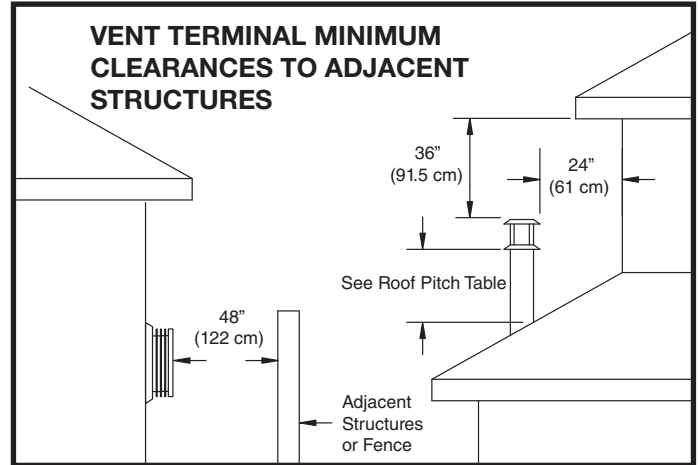
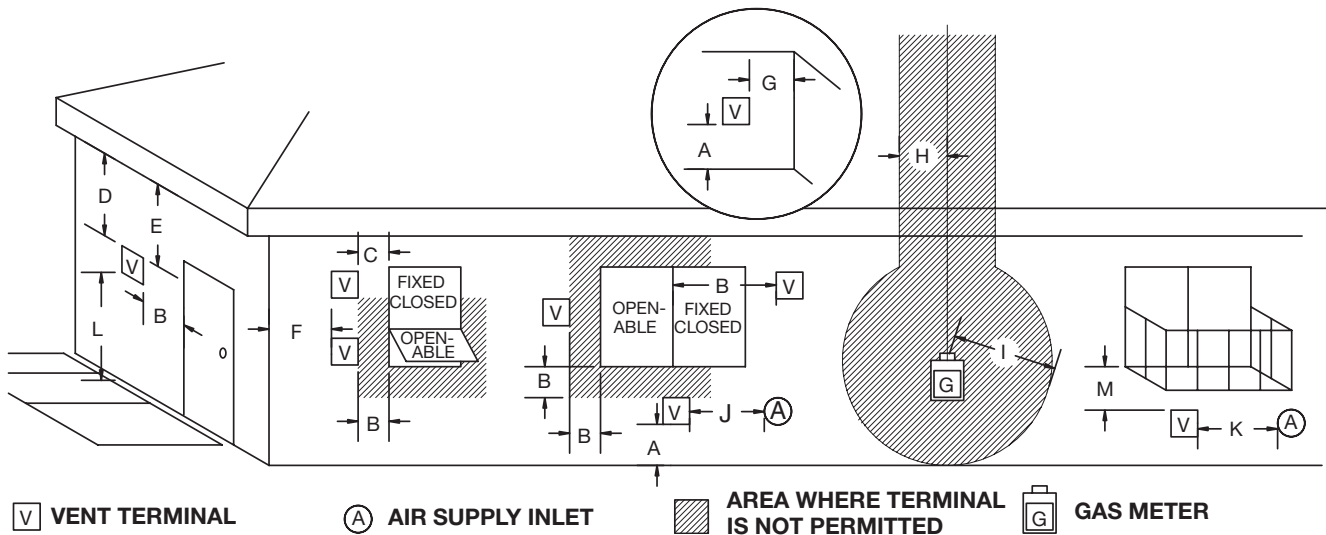

Figure 40: Vent roof clearance.
Figure 41: Vent terminal minimum clearances.
**NOTE: MINIMUM CLEARANCES TO THE VENT TERMINAL MUST BE MAINTAINED** See Figure 40 and Figure 41 on page 25.
Minimum clearances to the vent terminal must be maintained as shown in Figure 40. Measure clearances to the nearest edge of termination hood.